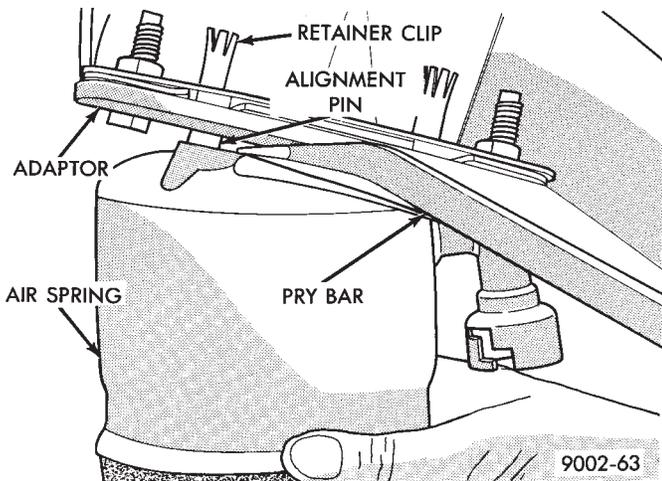

Fig. 20 Pry Assembly Out of Retaining Clips
(6) Pry assembly down to pull alignment studs through retaining clips (Fig. 20). Remove assembly.